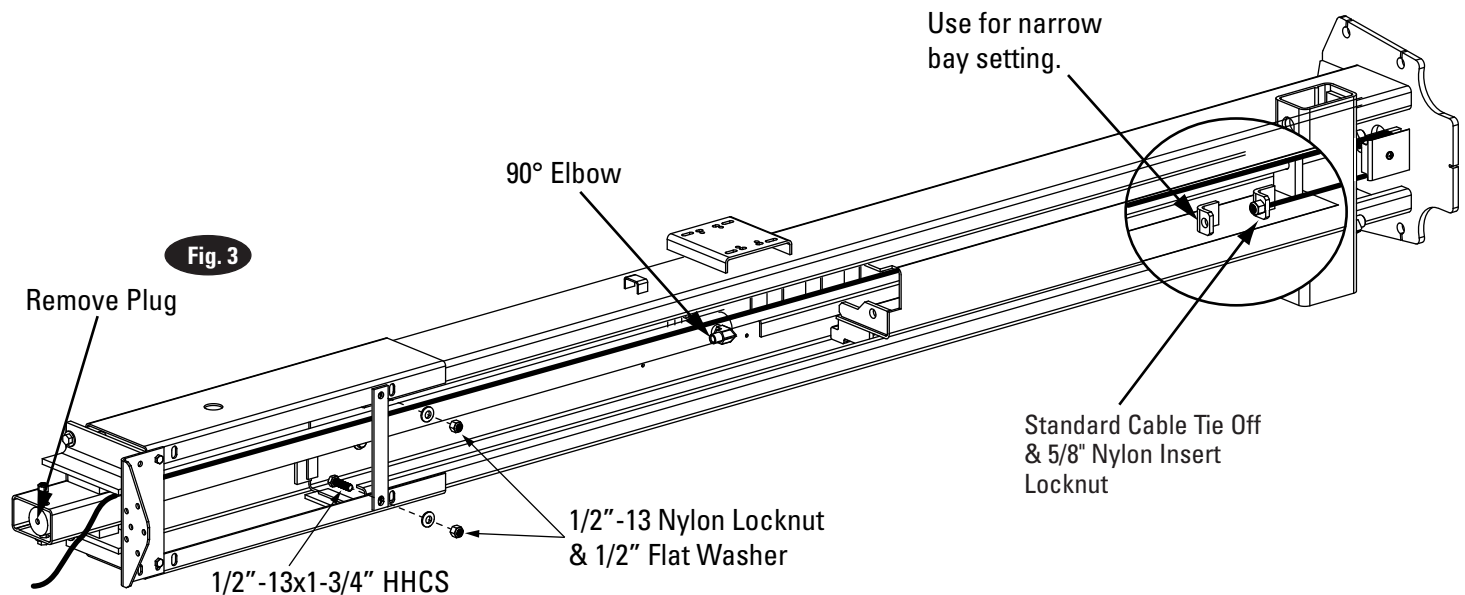
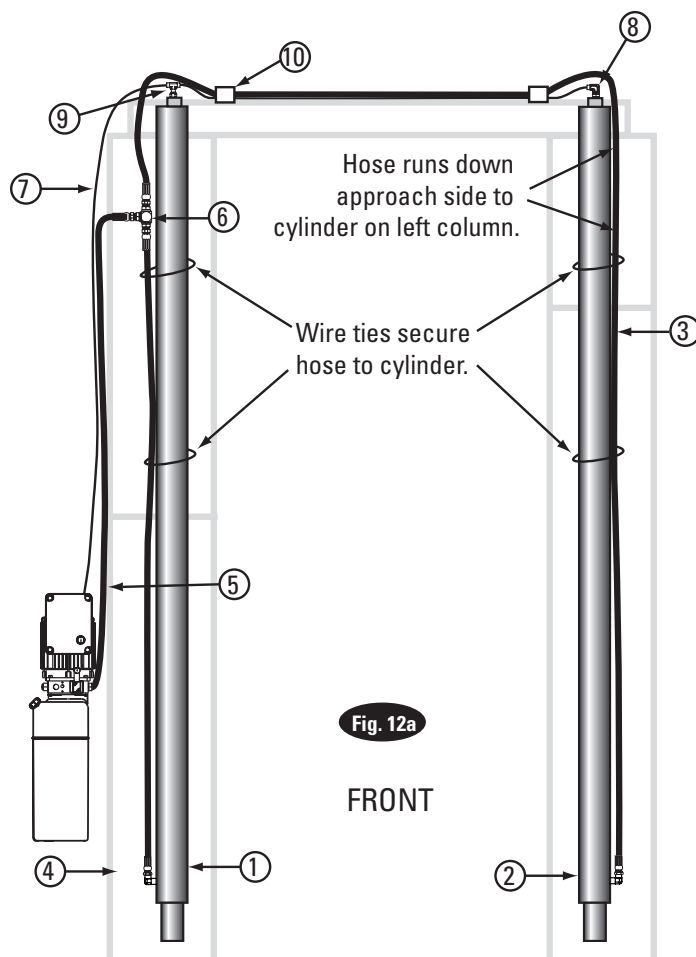

Fig. 3
Fig. 12a
3. Cylinder Fitting: Prior to standing up lift columns, install the 90° elbow fitting to the cylinder and equalizer cable to the bottom of the carriage Fig 3. Remove plug from the top of the cylinders and install the appropriate fittings per Fig. 12a.
- D) Pull the cable back down, Fig. 3.
5. Tie Bar: Attach tie bar to column with (2) 1/2"-13x1-3/4" HHCS, (2) 1/2" Flat Washer, and (2) 1/2"-13 Nylon Locknut, Fig. 3.
5. Run return line from elbow Pc. (8) to tee Pc. (9). The return line then runs outside of column down and connects to the power unit, Fig. 12a.
NOTE: Overhead hose goes over top end of overhead assembly, Fig. 12a, 12c, Fig. 17a, & Fig. 17b.